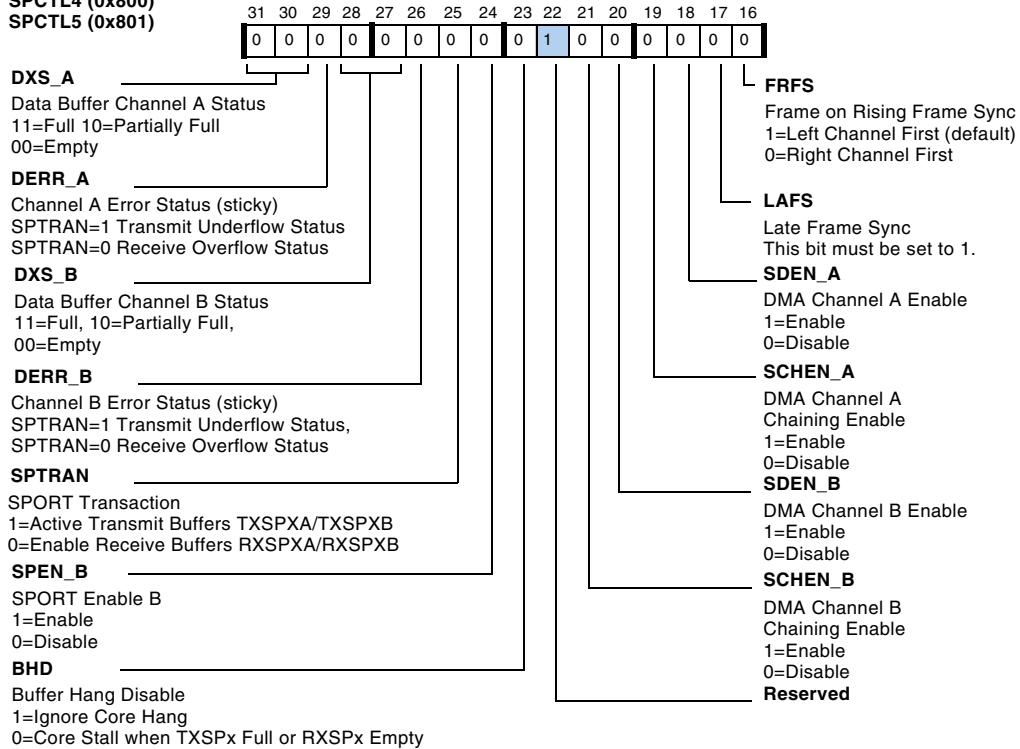
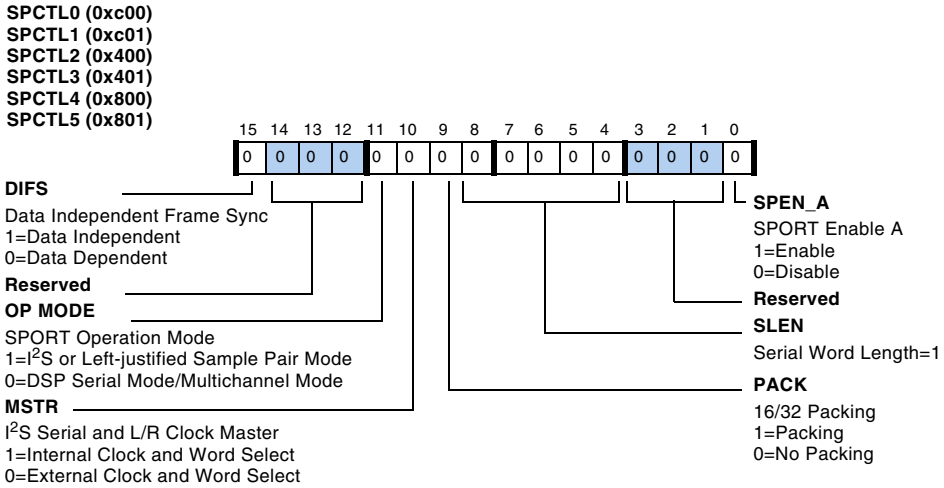

Figure A-20. SPCTLx Control Bits – for I2S and Related Modes (Upper)
Figure A-21. SPCTLx Control Bits – for I2S and Related Modes (Lower)
- Figure A-20 and Figure A-21 provide bit definitions in Left-justified Sample Pair and I2S mode.